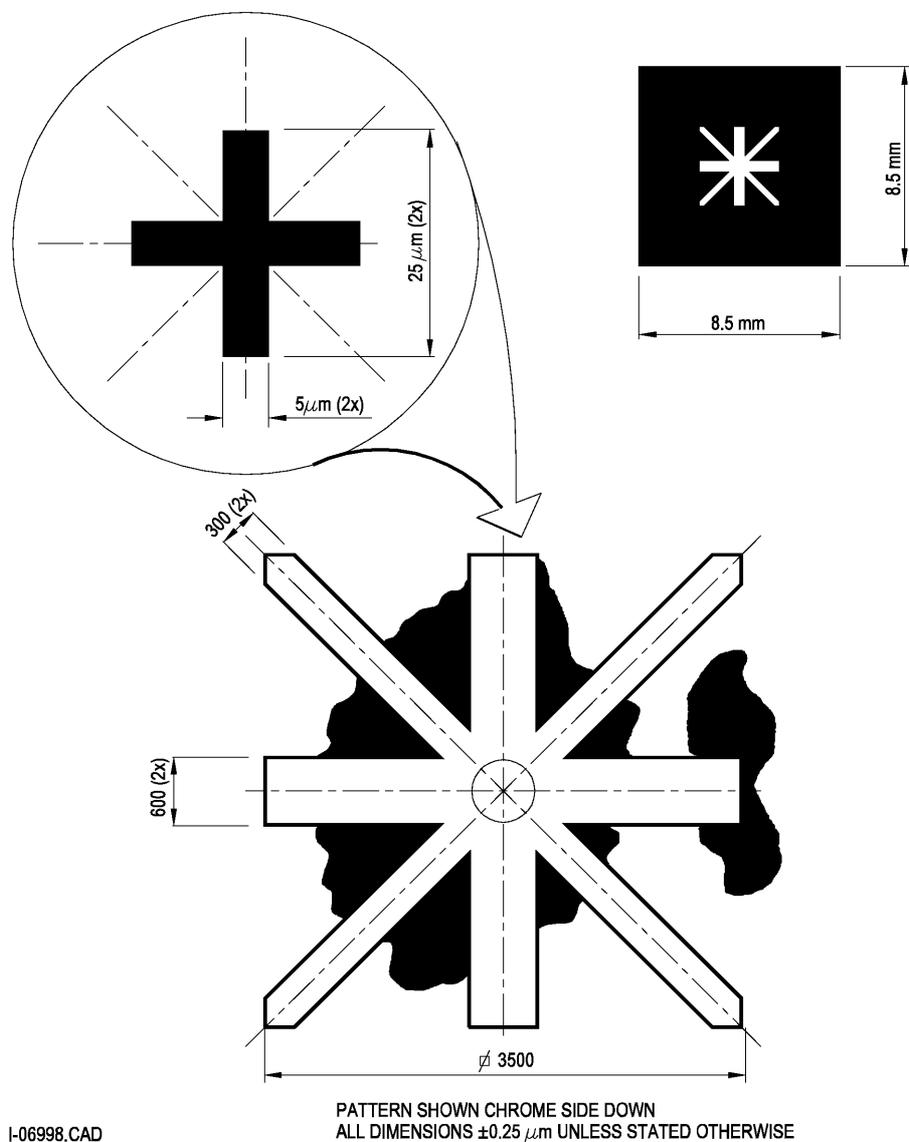

Figure 7.1 The reticle prealignment mark
The reticle prealignment mark (P) is a star shaped pattern that is found twice on the reticle (see Figure 7.1). The marks are used by the reticle handling system to prealign the reticle on the reticle table. The marks should be clear with a dark (chromium) background. The chromium background must have an area of at least $8.5 \times 8.5 \text{ mm}^2$ centered around each prealignment mark. The chromium cross in the center of the prealignment mark can be used for inspection with an optical metrology tool.
The quiet zone 2 at the beginning consists of an 8 mm x 5 mm chromium area and the quiet zone 1 at the end has a 2 mm x 5 mm chromium area. (The 8 mm x 5 mm quiet zone must be located closest to the prealignment mark (see Figure 7.1).) The actual user defined code may consist of up to 12 characters. The user defined characters are always preceded by the Start/Stop character and the last character of the user defined code is always followed by a Start/Stop character.